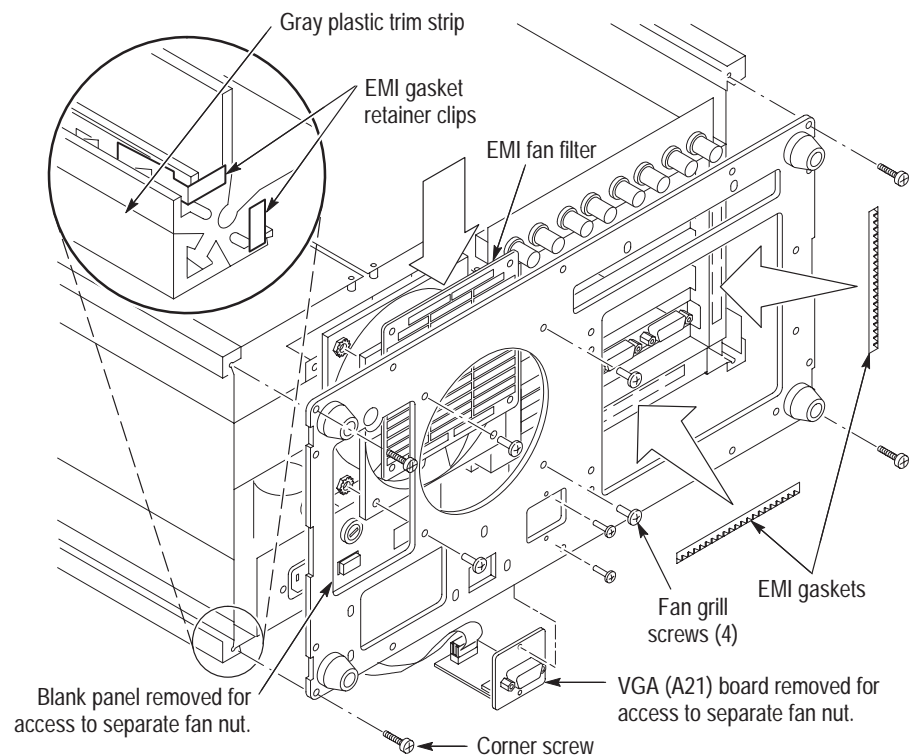

Figure 12: EMI gaskets and EMI fan filter installation (VM700A with VMTB/VMTX)
3. Loosen the four corner screws and pull the rear panel onto the screws, leaning the rear panel away just enough to slide the two EMI gaskets (shown in Figure 12) in place. Do not place excessive strain on the fan cable.
NOTE. Note the position of the two EMI gasket retainer clips (inside the rails) at each corner of the chassis (see the detail inset illustration in Figure 12). The retainer clips must be in place when the rear panel is reinstalled.
5. Attach the EMI gaskets behind the rear panel shown in Figure 12.
NOTE. *Note the position of the two EMI gasket retainer clips at each corner of the chassis (see the detail inset illustration in Figure 12 on page 29). The clips must be in place when the new rear panel is installed. Replacement retainer clips are provided in the spare parts bag in case the originals are damaged or lost.*
NOTE. *The trim strips on the chassis edges (see Figure 12) may slide back as you position the video measurement set on the work surface. This is especially true of the trim strips in contact with the work surface. Make sure each of the trim strips is fully forward as you tighten the corner screws of the rear panel.*